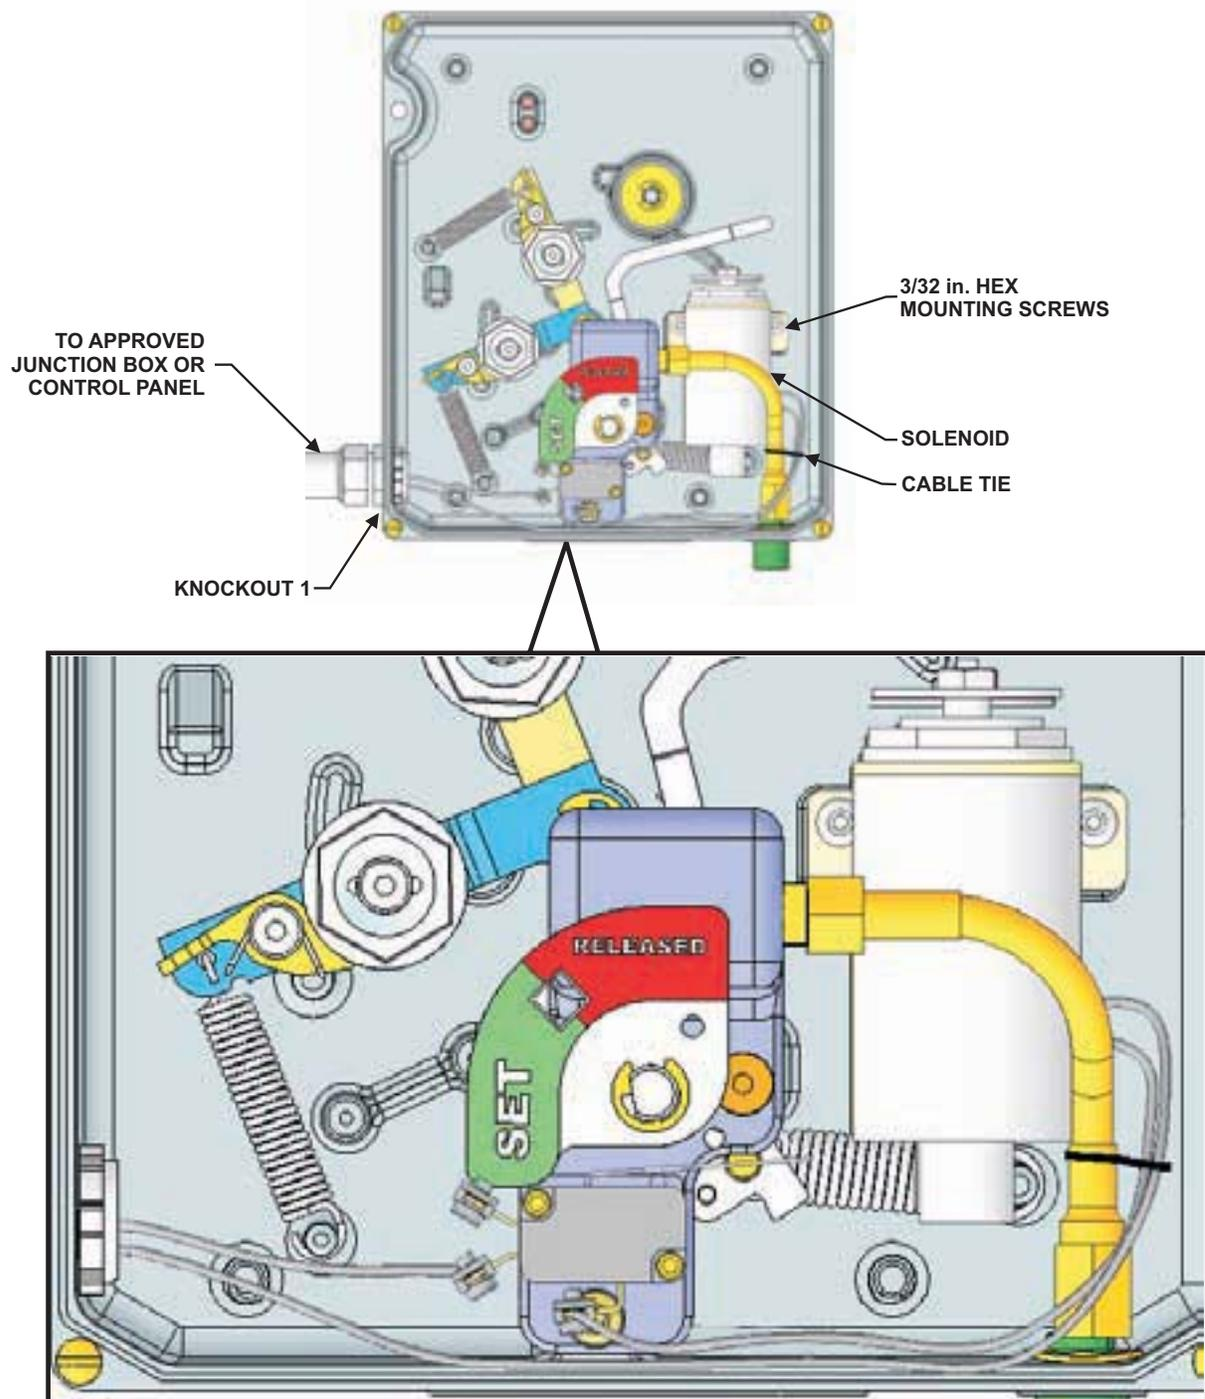

Figure 4-34. Solenoid Mounted and Wired in the UCH Control System
1. Using a 3/32-inch Allen key, position the Solenoid behind the High-Pressure Nitrogen Tubing, aligning the mounting bracket with the mounting screw holes on the actuator mounting pad (see Figure 4-34).
- Finish the releasing loop by attaching a wire to T4 of the microswitch, through the conduit and into an approved control panel. See Figure 4-34, Figure 4-36 and Section 2-2.1.5.